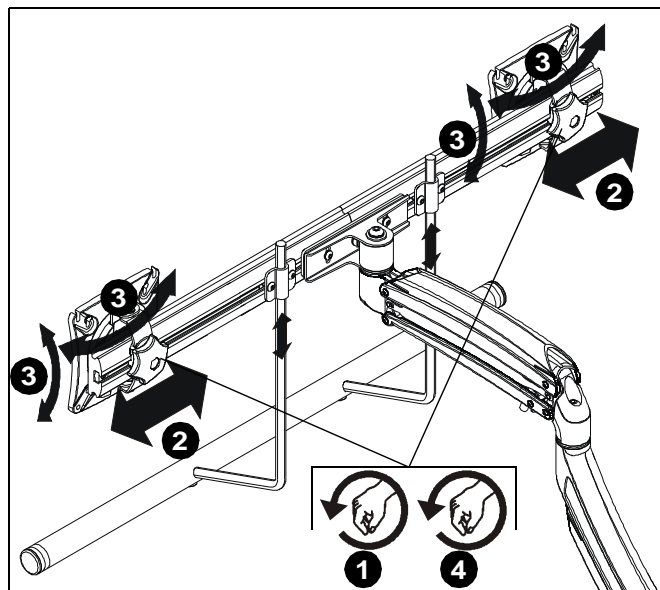

Figure 16
1. Loosen knobs securing faceplates to array. (See Figure 16)
2. Slide displays laterally on array to adjust lateral shift. (See Figure 16)
3. Adjust pitch and pivot position as desired. (See Figure 16)
4. Tighten knobs to secure faceplates in position. (See Figure 16)